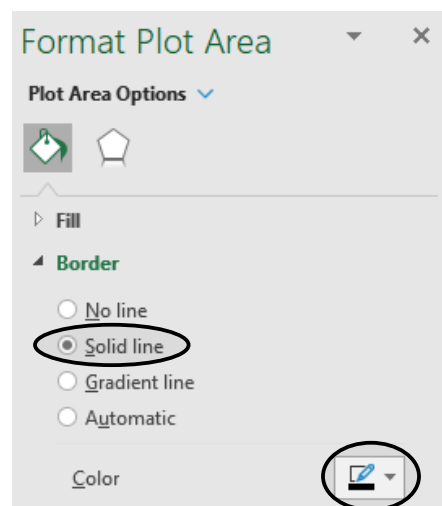

Figure 18: **Format Plot Area** toolbar with **Border** drop-down menu open and **Solid line** option and color-change menu circled
**After** removing the gridlines, **Right-click** the white area of the plot and select **Format Plot Area**. In the **Border** drop-down menu, select **Solid Line**, then change the color to **black** as seen in Figure 18. To make a consistent black border around the entire plot, use the drop-down menu (where it says **Plot Area Options**) in the Toolbar to switch to **Horizontal Axis** and change the axis to a **Solid Line** with **black color**, then repeat for **Vertical Axis**.